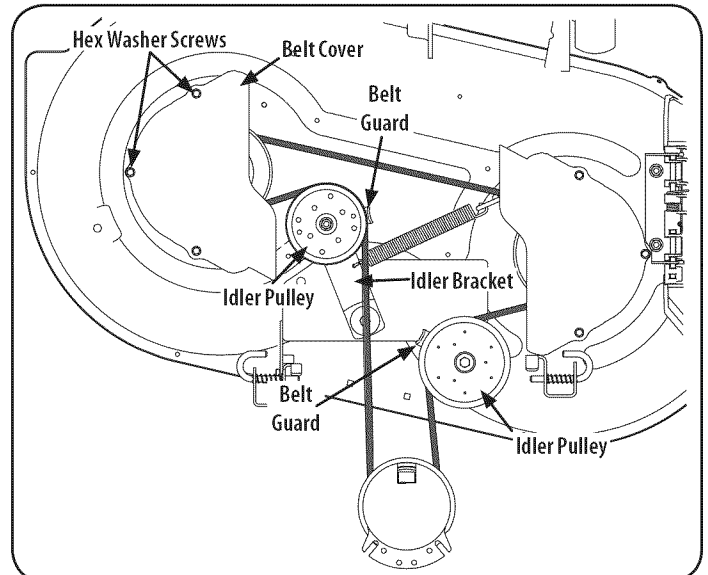

Figure 35
2. Remove the hex washer screws securing the belt covers to the deck. See Figure 35.
- Install the new belt around the spindle pulleys as shown and reinstall the belt covers. See Figure 35.